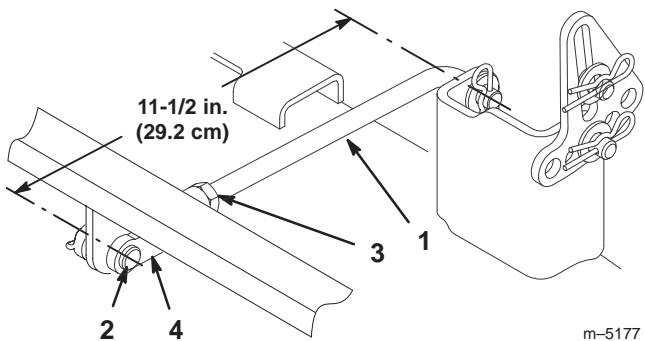

Figure 40
4. Measure the length of the rear trunnion rod (Fig. 40). If the rod length is not 11-1/2 in. (29.2 cm), remove the clevis pin and cotter pin from the end of the rod (Fig. 40), loosen the jam nut, and turn the yoke until the 11-1/2 in. (29.3 cm) dimension is obtained. Then secure the yoke with the clevis pin and cotter pin. Repeat this procedure on the opposite side of the mower.
10. When the front-to-rear blade slope is correct, tighten the jam nuts (Fig. 40 and 42).